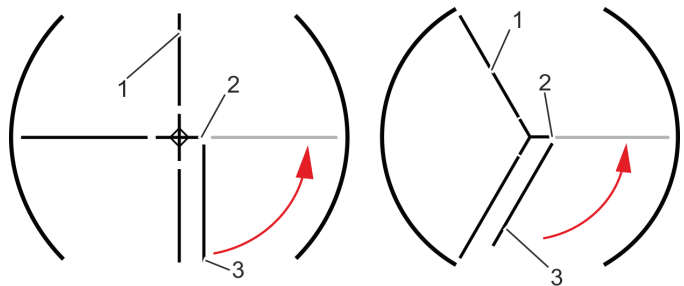

Fig. 46 Releasing the wing (four and three wings)
1. Release the stop on the wing (Fig. 46/3) by turning the knob on the fitting (Fig. 46/2) to the side.
Have one person hold the wing at the entrance (Fig. 46/1).
3. Move the wing (Fig. 46/3) in the direction indicated by the arrow, as shown in Fig. 46.